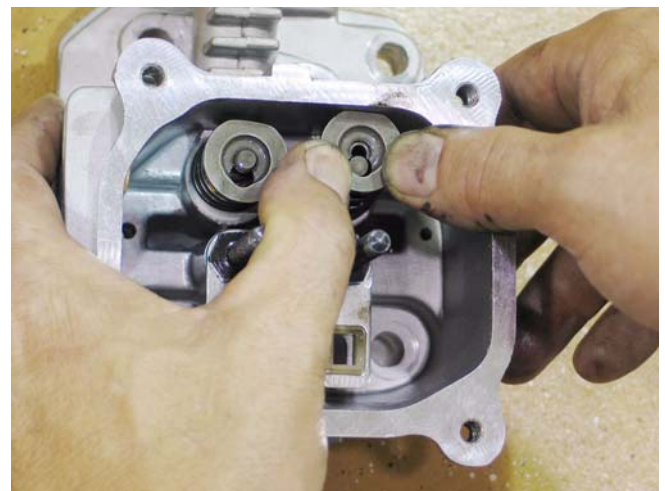

Figure 9.8
- Remove the valve retainers by applying light finger pressure on the valve retainers and sliding them forward. See Figure 9.8.